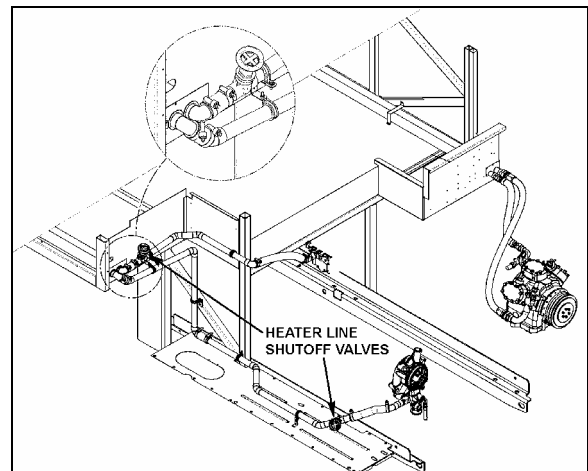

FIGURE 54: HEATER LINE SHUT-OFF VALVES 05067
On **XLII-45 vehicles**, the valves are located in engine compartment. One is on the L.H. side of compartment in front of the radiator and the other valve is located under the radiator fan gearbox (Fig. 54).
- b) The water valve need not be removed from the line. Unscrew nipple, the actuator casing, tube, spindle and closure member can be removed (Fig. 54).
- b) Tighten the nipple in place in the body cavity as per figure 54. Fasten pilot solenoid valve to the pneumatic water valve. Reconnect air supply pressure and electrical current to the pilot solenoid valve.